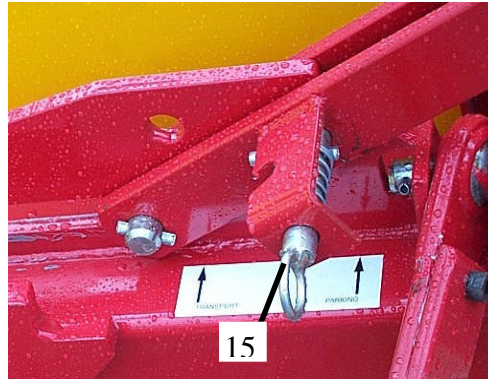

Figure 2 - Limit locking pin shown in the 'Park' position
9. Continue to lift the headstock so that the limit lock pin (15) can be locked into the “park” position (refer to Figure 2). The headstock will now float, so any supports can be removed and the headstock gently lowered until the spring takes the weight.